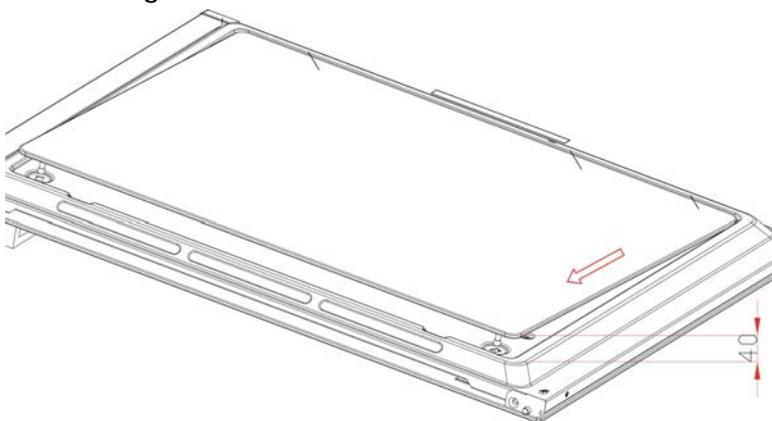

Fig.12-4
c) make the glass on the postion of with about 40mm height, DO NOT take it too high as it will broken the frame. Then pull it glass out with the direction as fig.12-4. In this way, it is easy to clear the glass of oven door.